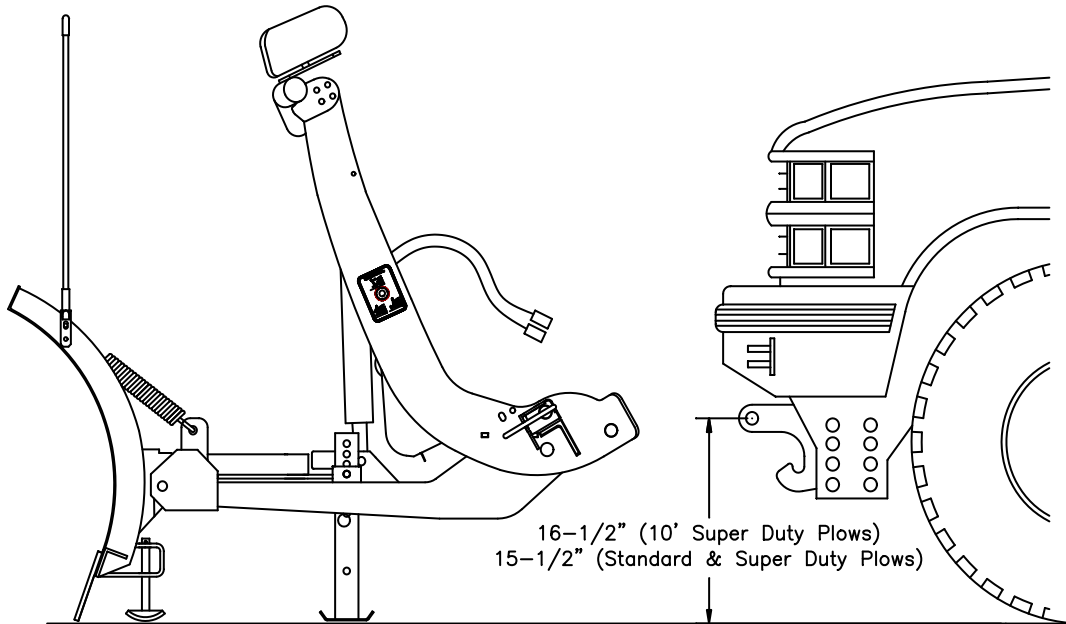

Figure 2
4. Install Push Beam Assembly (1) between Support Plates (2L & 2R) using ½”-13 x 2” Grade 5 Bolts (C) and ½”-13 Grade 5 Lock Nuts (D). The front bolts must be installed so that the bolt head is on the inside and the nut is on the outside. This is to provide clearance for the plow’s coupler. The height of Push Beam Assembly must be 16-1/2” from the ground to the center of the pin receiving hole (see Figure 2). It is possible that this height will not be achieved due to the low profile of the truck’s bumper. If this is the case, the bumper should be notched to provide clearance around the push beam hooks. Be sure to make the cut wide enough to allow clearance for the side plates on the plow’s coupler.